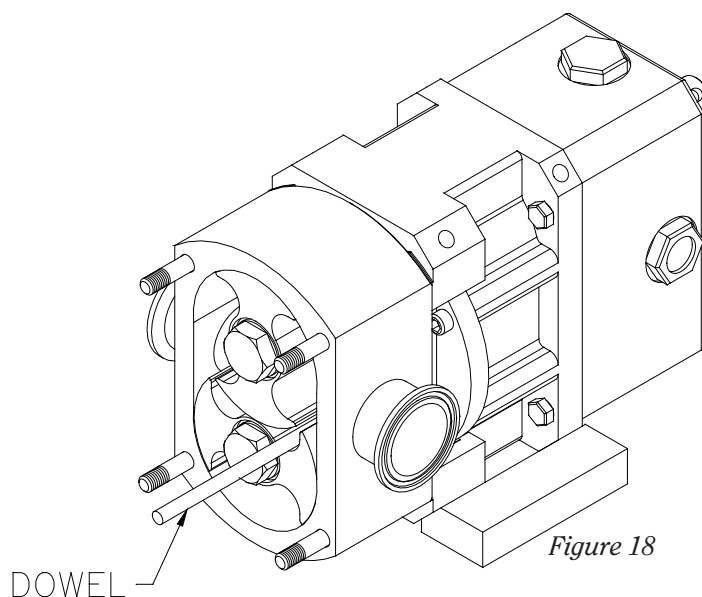

Figure 18
- e) Place the wooden dowel between the rotors as shown in *Figure 18*. Tighten the first rotor nut with a socket wrench (and Flat Cover Rotor Bolt Tool on models 15-75). to the recommended torque (*Table A2, page 5*).